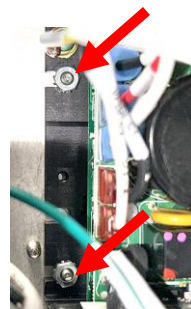

Figure 19
23. Use a long extension with a 5/16" driver to **REMOVE** the nuts on the **LEFT** side of the VFD (see Figure 19).